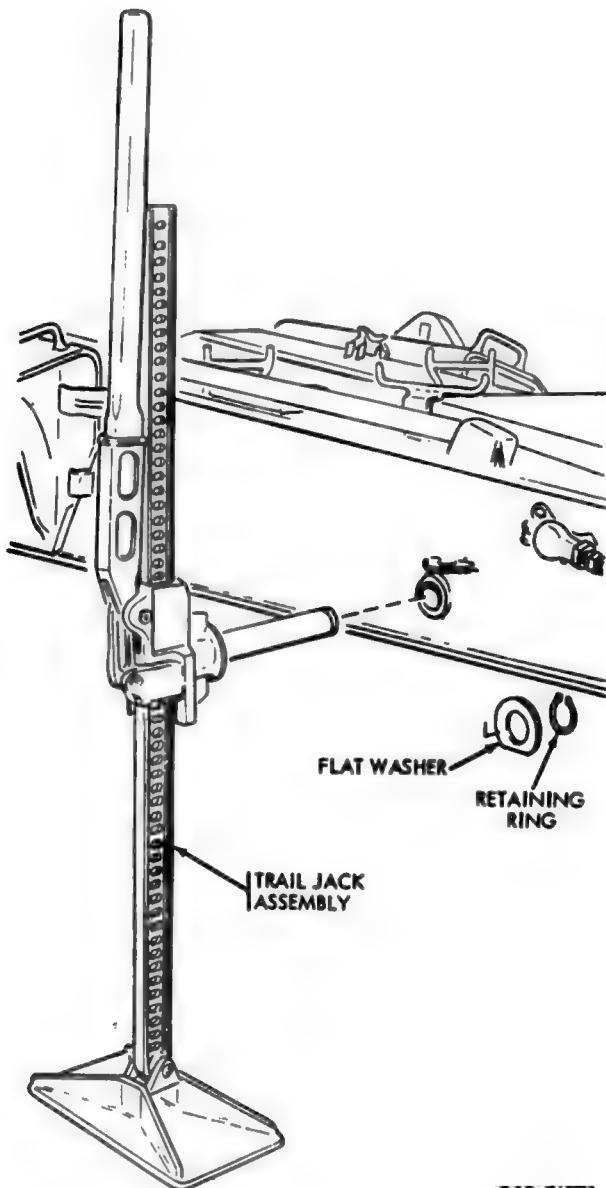

Figure 157. Removal or installation of trail jack assembly.
a. *Removal (fig. 157).* Remove the retaining ring securing the trail jack assembly to the left trail and remove the flat washer and jack assembly.
b. *Installation (fig. 157).* Insert the shaft on the trail jack assembly through the hole provided in the left trail and secure with a 1-3/4-inch flat washer and a 1-1/2-inch external retaining ring.